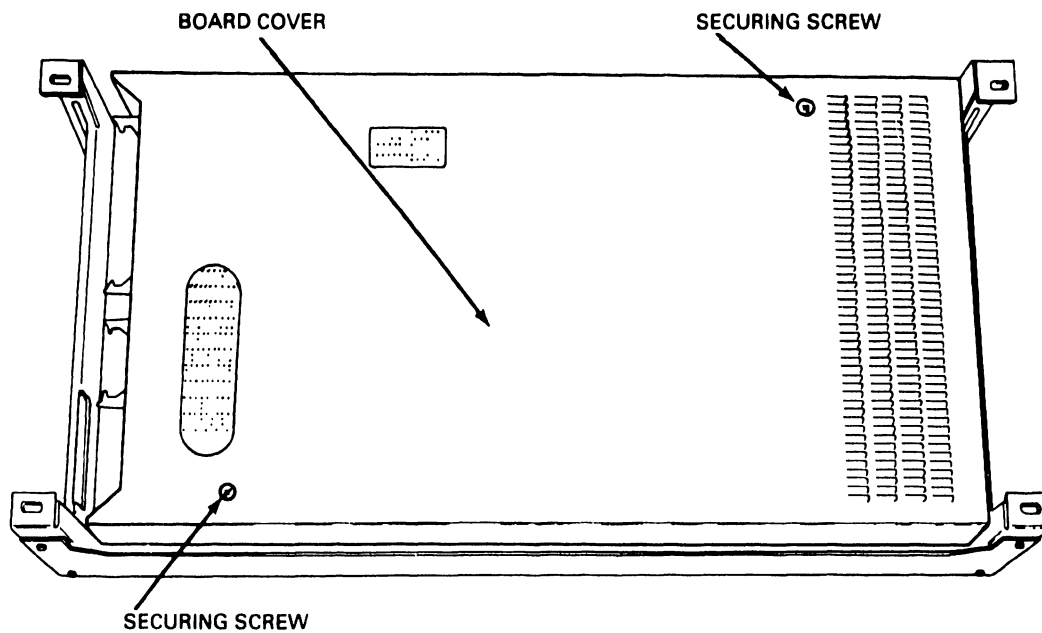

Figure 4-1 D22x7 Board Cover
3. Loosen the two screws that secure the board cover to the drive unit (see Figure 4-1).